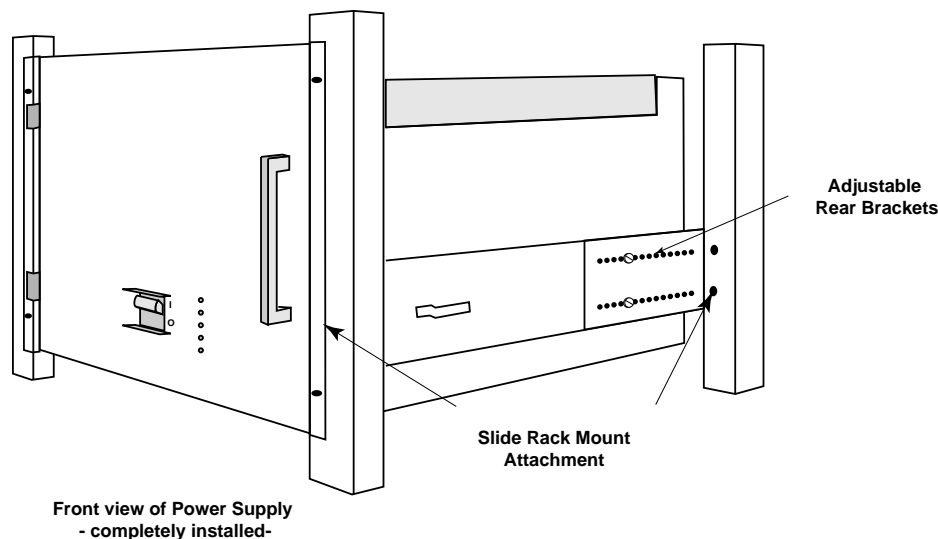

Figure 2-17. Frame Power Supply Installation (frame not shown)
To install the Signal Processor Primary Frame Power Supply in the equipment rack, refer to Figure 2-17 and proceed as follows:
5. Mount the rack sections of the slides to the front and back of the rack and secure them in place with the appropriate screws as illustrated in Figure 2-17. The mounting ears at the front of the slides should mount to the *inside* surface of the rack rail. On **threaded rails**, run short pan head screws from inside. On **unthreaded rails**, run flat head screws (with nuts) from the outside. This results in the power supply being flush with the frame; plus allowing for the proper mating of the electrical connectors in the back. It may be necessary to adjust the length of the rear brackets, depending upon the depth of the rack assembly.